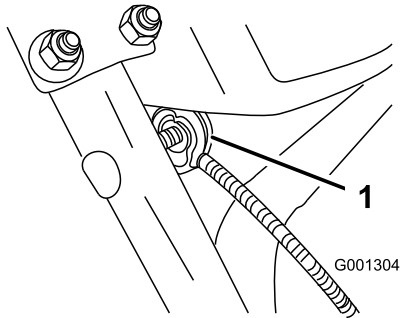

Figure 8
3. Remove the nut and washer from the handle, attach the cable clamp on the cable to the handle, install the washer and the nut, and hand tighten the nut (Figure 8).